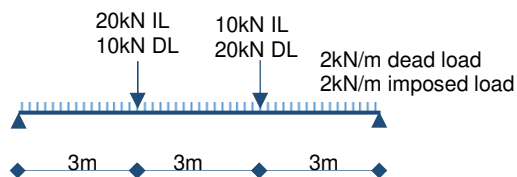

Fig. 1
2. A simply supported universal beam supports uniformly distributed characteristic dead and imposed loads of 2kN/m each as well as characteristic imposed and dead point loads which are equidistant over an effective span of 9m as shown in figure 1. Assuming that the beam is fully laterally restrained and normal loading conditions, select a suitable universal beam in grade S275(grade 43) steel to satisfy bending, shear and deflection. $E=205\text{kN/mm}^2$ (20 marks)